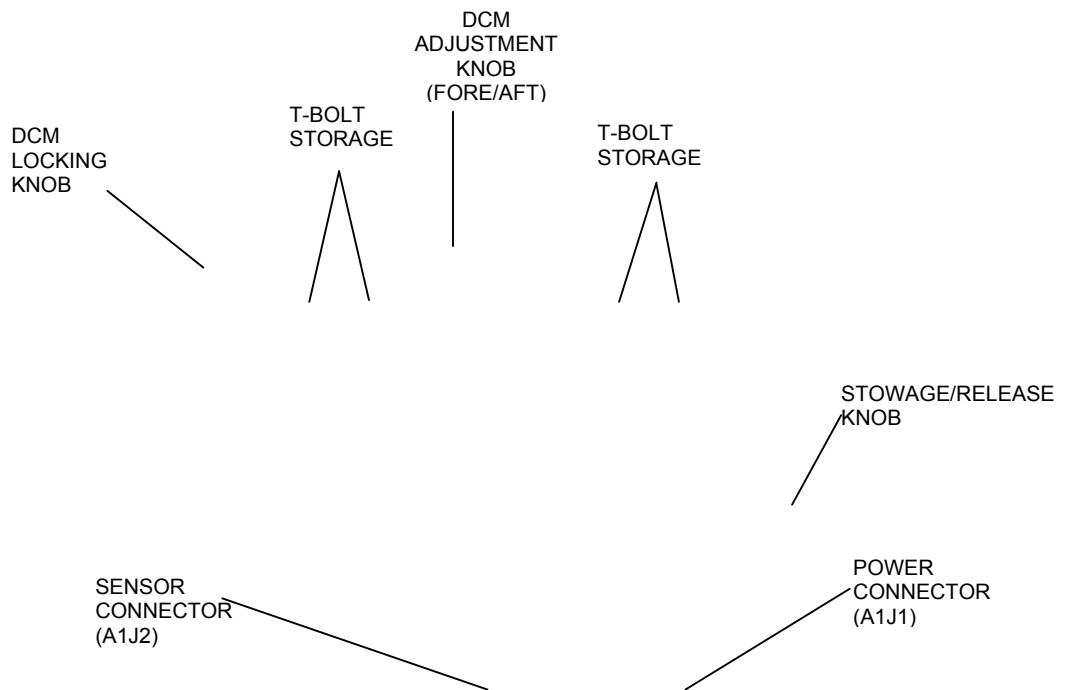

Figure 4-10. Display Control Module (Back View)
8. Align and install power cable to the POWER (A1J1) connector (Figure 4-10) on DCM.
6. Remove the cable connectors from the dummy connectors on the display bracket and install them to the connector locations illustrated in Figure 4-10.